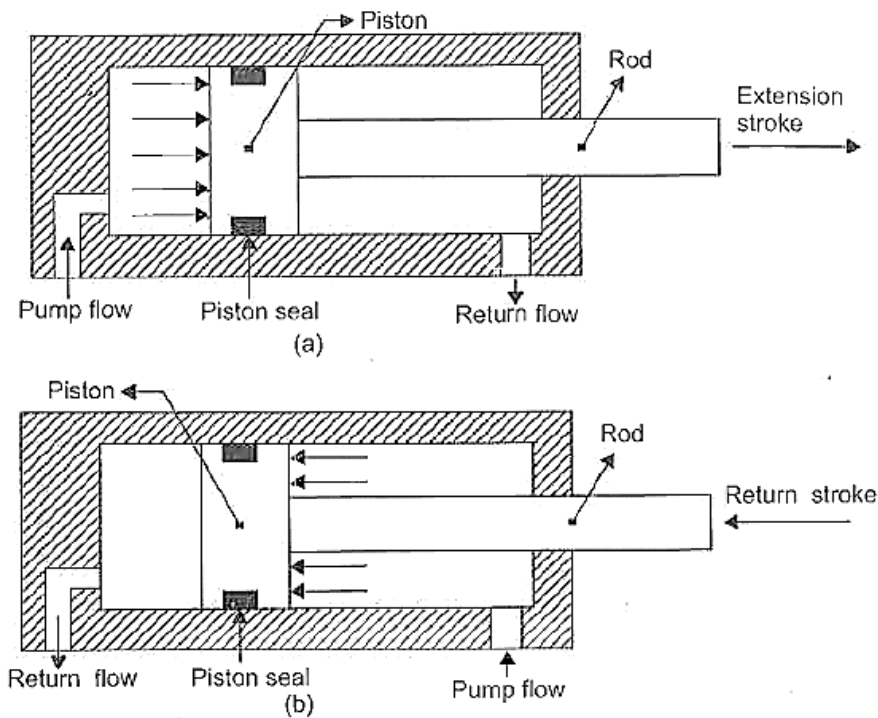

Fig.5.8 Double acting cylinder with piston rod on one side
- ▶ Fig.5.8 shows the operation of a double acting cylinder with a piston rod on one side. To extend the cylinder, pump flow is sent to the blank end port as in Fig.5.8 (a) and the fluid from the rod end port returns to the reservoir. To retract the cylinder, the pump flow is sent to the rod end port and the fluid from the blank end port returns to the tank as seen in Fig.5.8 (b).